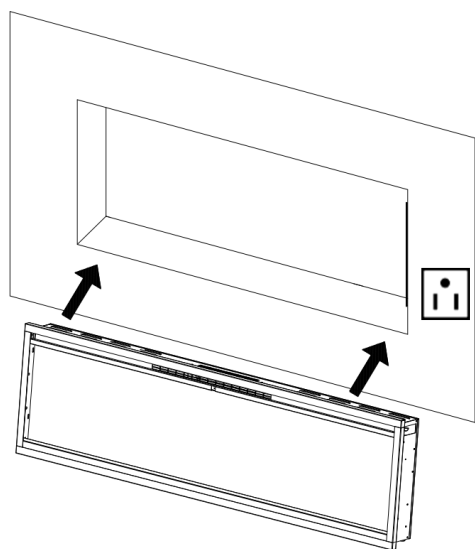

Fig. 2-1
2. Have two adult people to lift up the fireplace and insert it into the rough-in frame and then secure it by installing **2** wood screws (**B**) through the holes (**Fig. 2-1, Fig. 2-2**).